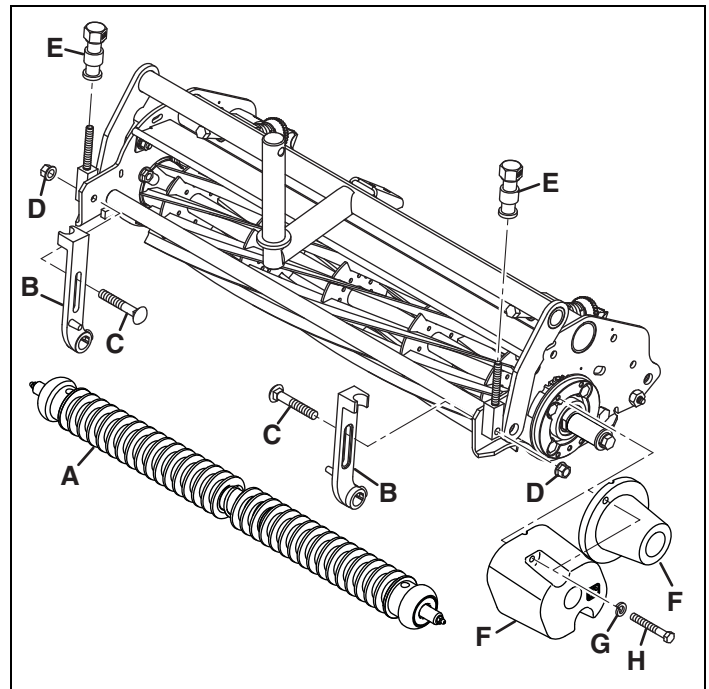

Figure 2
1. If installed, remove carriage bolts **(C)**, flange nuts **(D)**, front roller adjusting brackets **(B)**, existing front roller **(A)** and adjusting knobs **(E)**. See **Figure 2**.
2. Remove hardware **(G and H)** and counterweight **(F)**. See **Figure 2**.